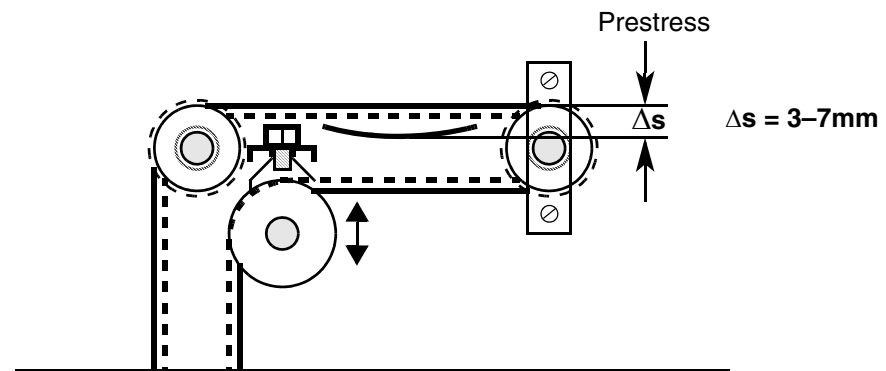

Fig. 34: Prestress of toothed belt
- Check prestress of toothed belt ( $\Delta s$ ) . ☞ See Fig. 34: Prestress of toothed belt.